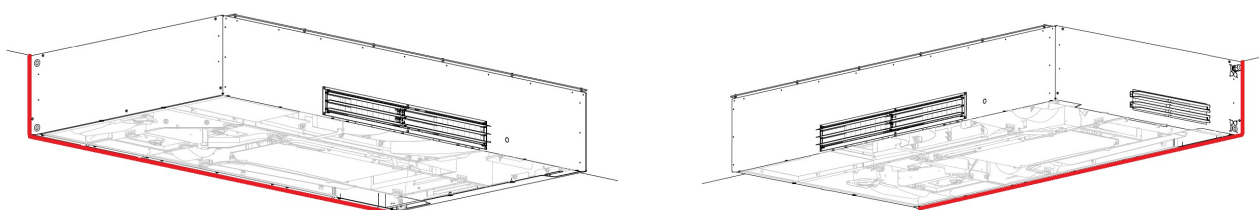

Figure 19: Sealing around the unit
- Apply sealant to the inside around the base and sides of the unit, i.e. between the unit and the wall, see Figure 19 below.